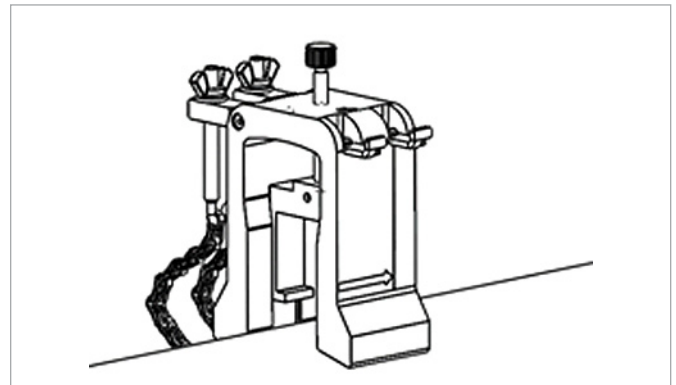

Figure 36: Yoke placement on top of pipe
- Place the yoke on the top of the pipe (see *Figure 36* below). If the required transducer spacing is <305 mm/12 in., the yoke chain must be placed within the clamping fixture as shown.